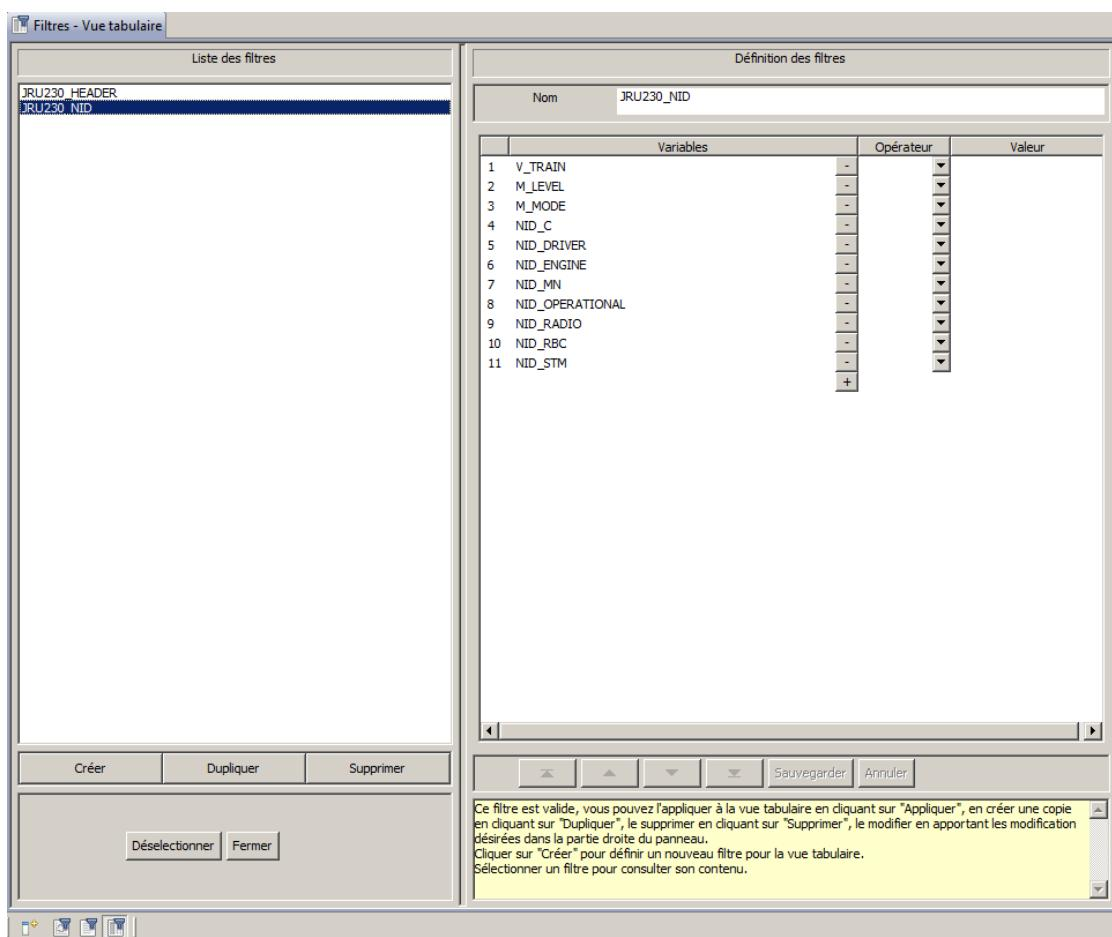

Figure 18
1. open the filter manager for the view, select a filter in the list of existing filters and press the "*Apply*" button (see Figure 18)